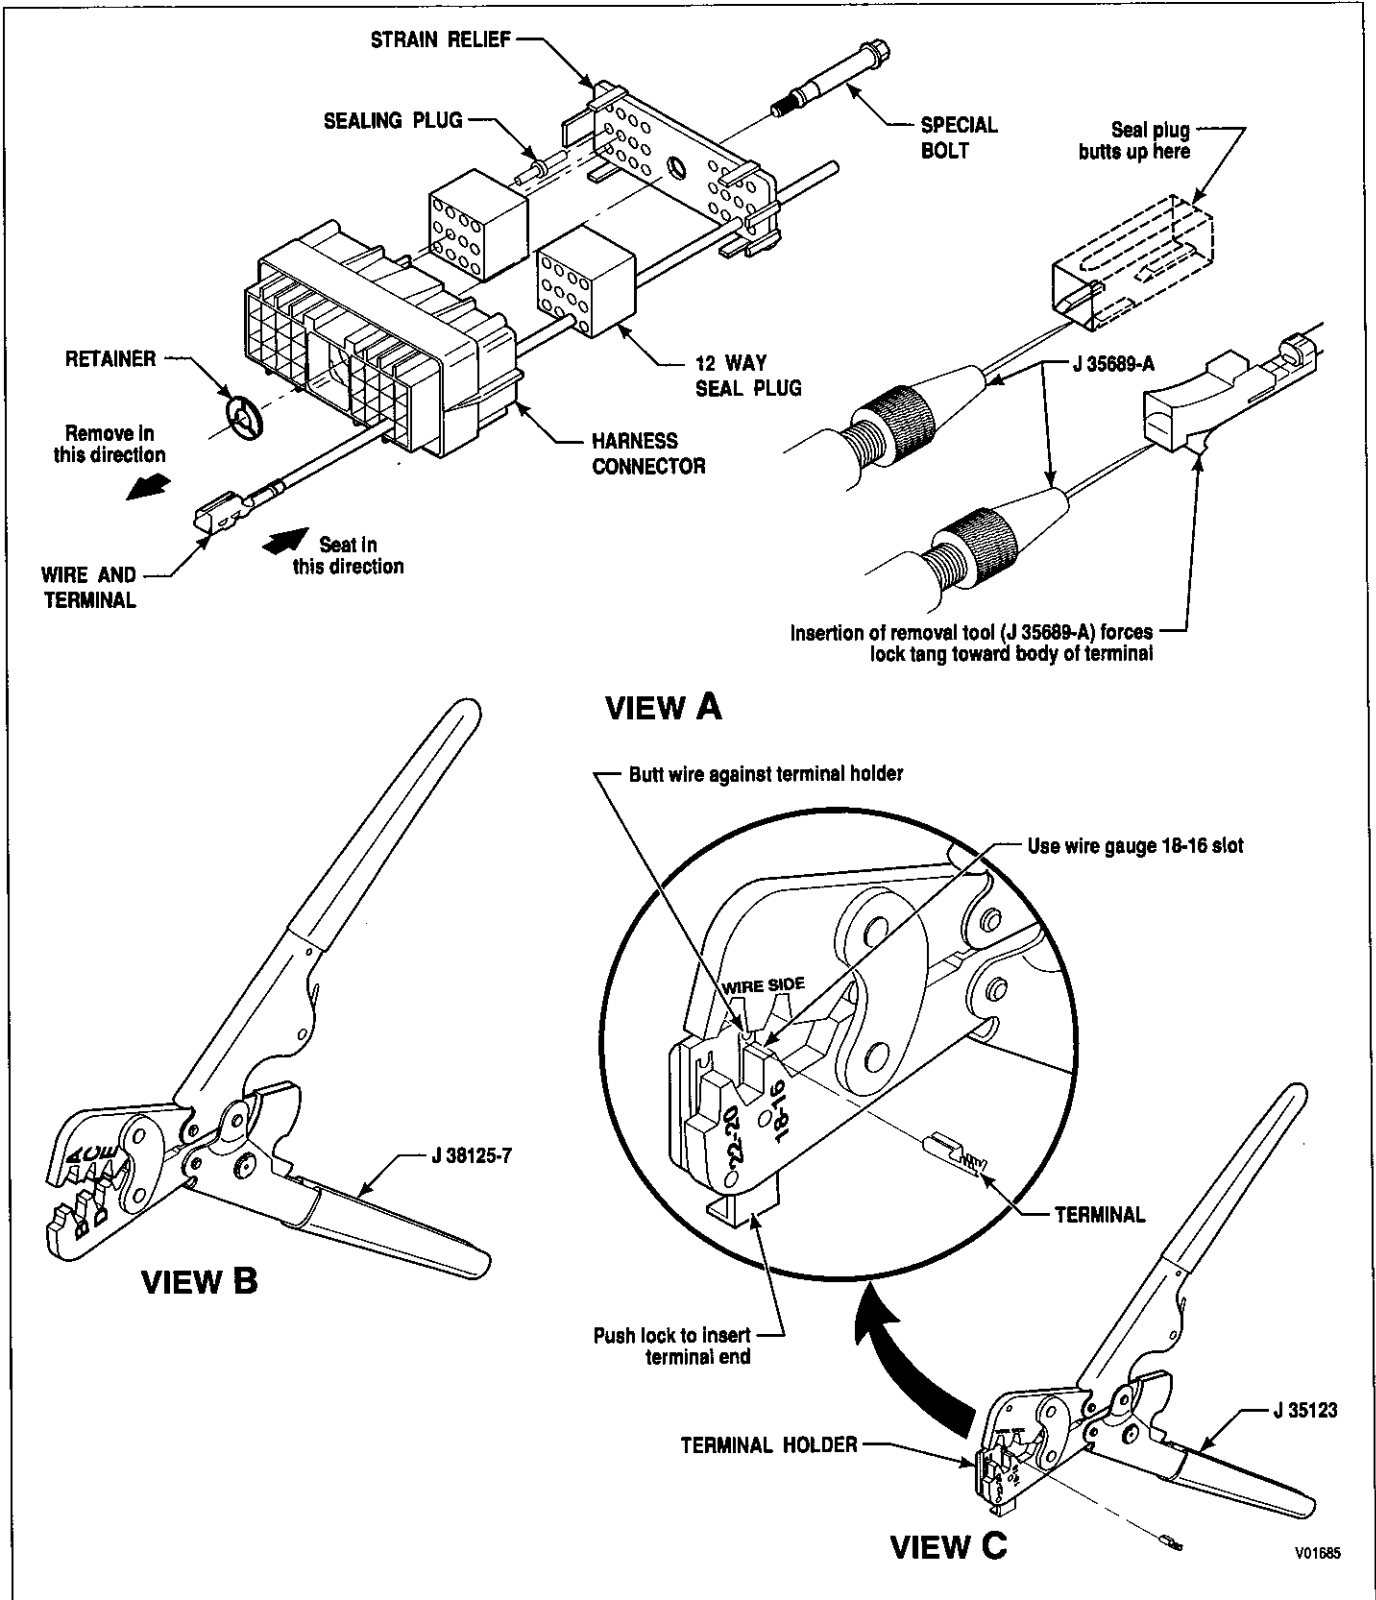

Figure E-2. Delphi-Packard Metri-Pack 150 Series Connectors — Pull-to-Seat (Speed Sensor; Accumulator Solenoid; Retarder Solenoid, TID 2; 30-Way and 18-Way VIM)
1. Insert needle end of terminal remover J 35689-A into the small notch between the connector and the terminal to be removed (Figure E-2, View A). Push the lock tang toward the terminal.
3. Place core crimp portion of terminal on bed of anvil "E" and squeeze crimper enough to keep terminal from dropping (Figure E-2, View B).
2. Insert remover tool in front side of connector to release locktab and push terminal out front of connector. Pull the terminal and wire out the front of the connector to complete Steps (3) through (7).
3. Push open the terminal holder on the crimper tool J 35123 and insert a terminal into the opening marked 18-16 (Figure E-2, View C) so that the crimp ends point up. Release the terminal holder.